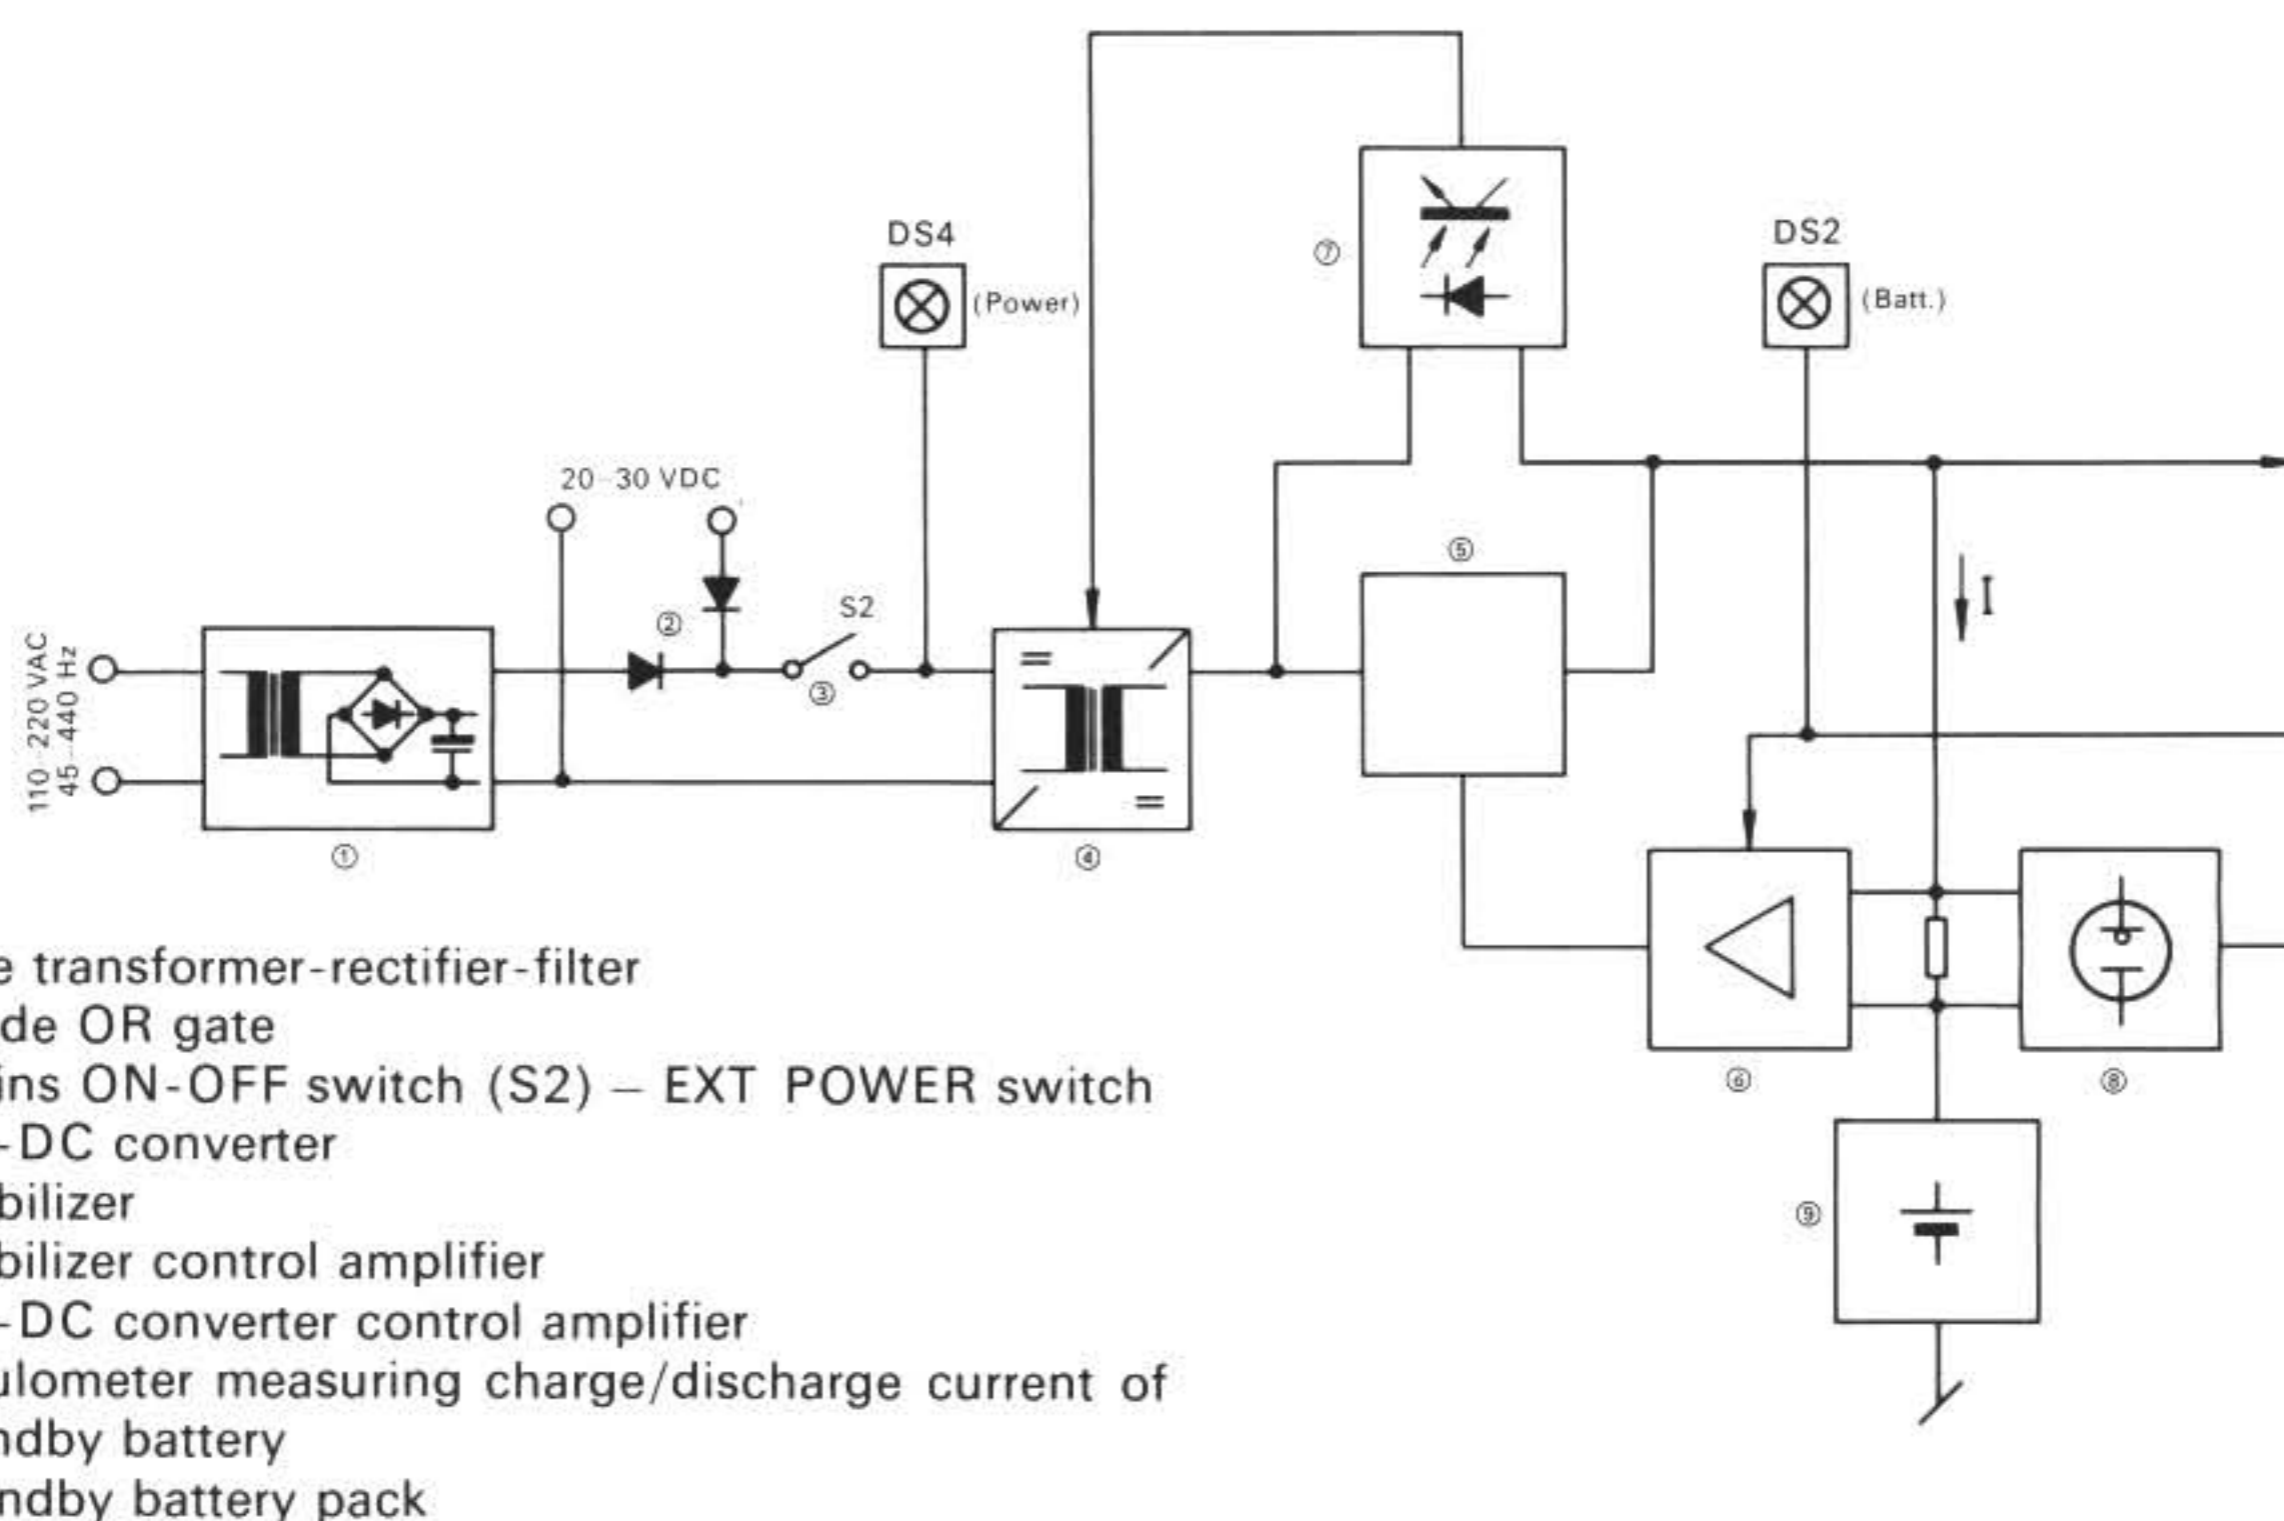

Fig. 5 Block diagram: power supply and standby unit
3.3. Power supply and standby battery (942 030 022..023..026) (figure 5)